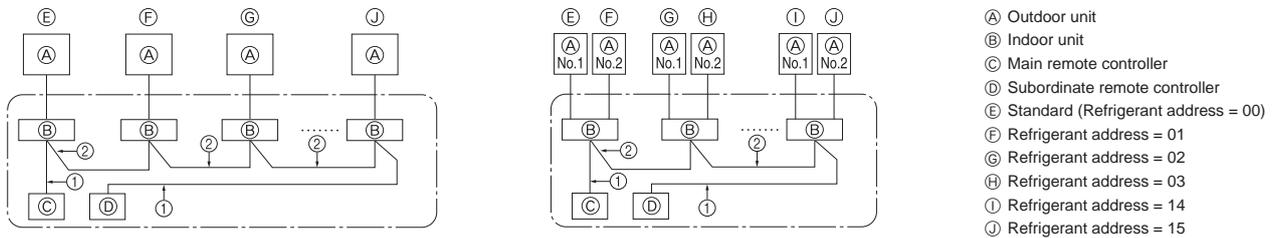

Fig. 6-2
### 6.1. Outdoor unit (Fig. 6-1, Fig. 6-2)
- Wire the cables referring to the Fig. 6-1 and the Fig. 6-2.
- (A) Power supply terminal block (L1, L2, L3, N, ⊕)